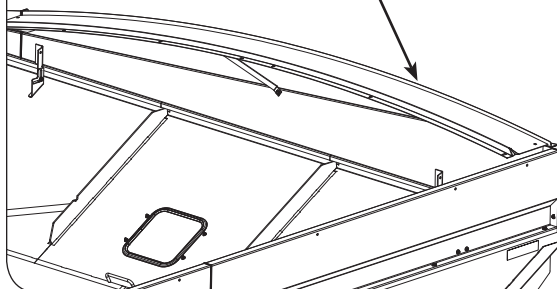

FIG. 2-29
13. Loosely install the right-hand (296548B - 1319 and 296572B - 1519) and left-hand (296547B - 1319 and 296570B - 1519) rear corner brackets to the outside of the sideboards with 3/8" carriage bolts (9388-051) and 3/8" locknuts (9008159). (FIG. 2-29)